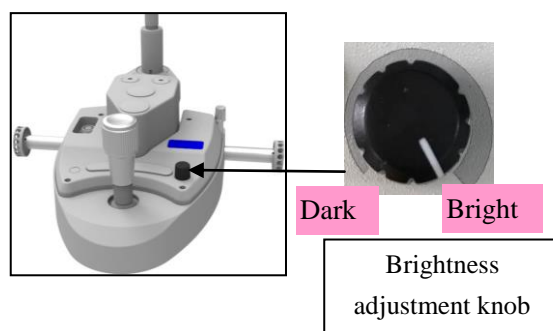

Figure3.1.2
observed when rotate the brightness adjustment knob (see Figure 3.1.2)
5. The brightness change of the illumination should be observed when rotate the brightness adjustment knob (see Figure 3.1.2)
Turn on the main power switch and turn the brightness adjustment knob to the middle (see Figure 3.1.2). Adjust the slit width adjustment knob (see Figure 2.3.1) to make the slit width 2 to 3 mm.